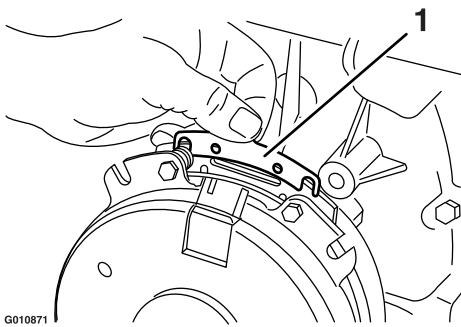

Figure 70
- B. Using needle-nose pliers, or by hand, hold the tab and remove the shim (Figure 70).
Remove any buildup of grass, dirt, or other debris from the engine screen. This helps ensure adequate cooling and correct engine speed and reduces the possibility of overheating and mechanical damage to the engine (Figure 70).